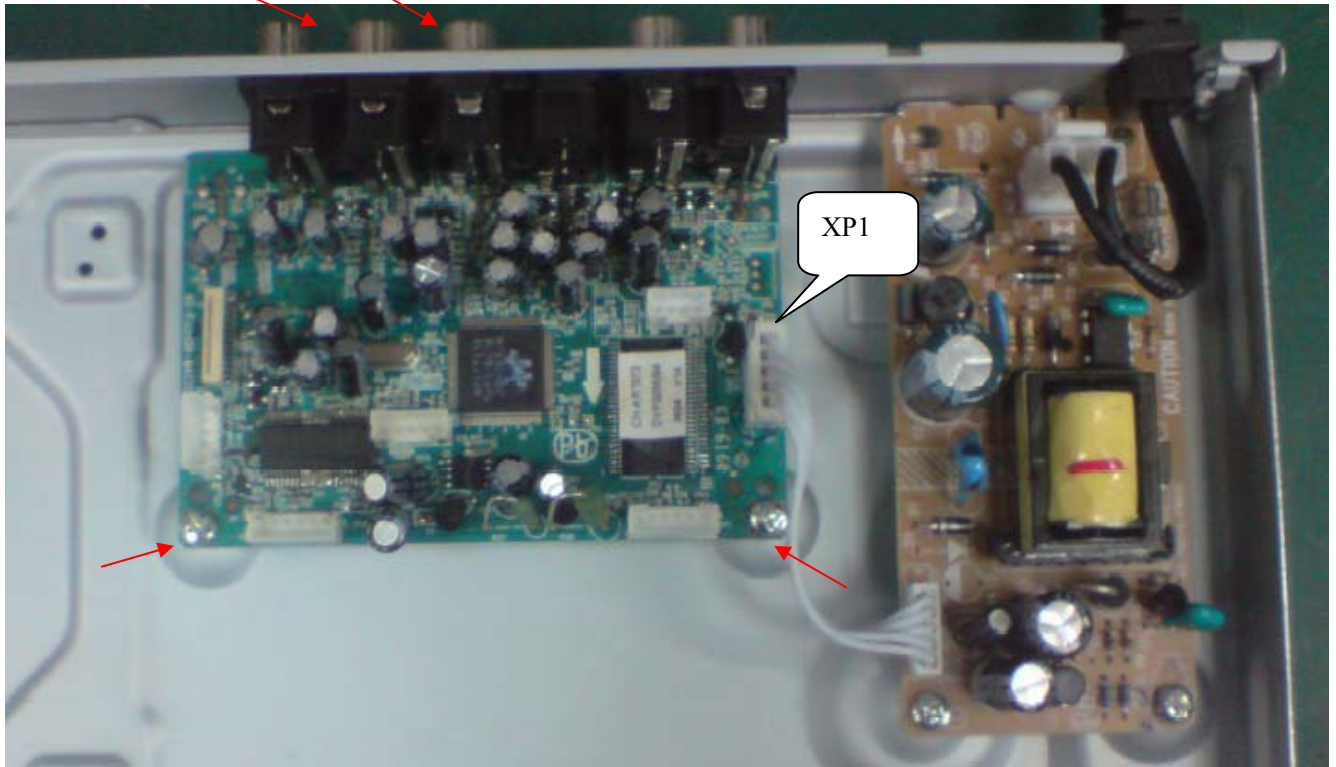

Figure 7
Step6: Dismantling Main Board, first disconnect the connector (XP1), and then remove 4 screws. (Figure 7)